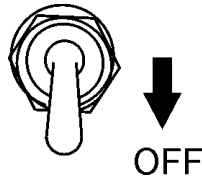

**Figure 18. Start Pushbutton Switch**
4. Press the generator's pushbutton start switch (Figure 18) and listen for the engine to start.